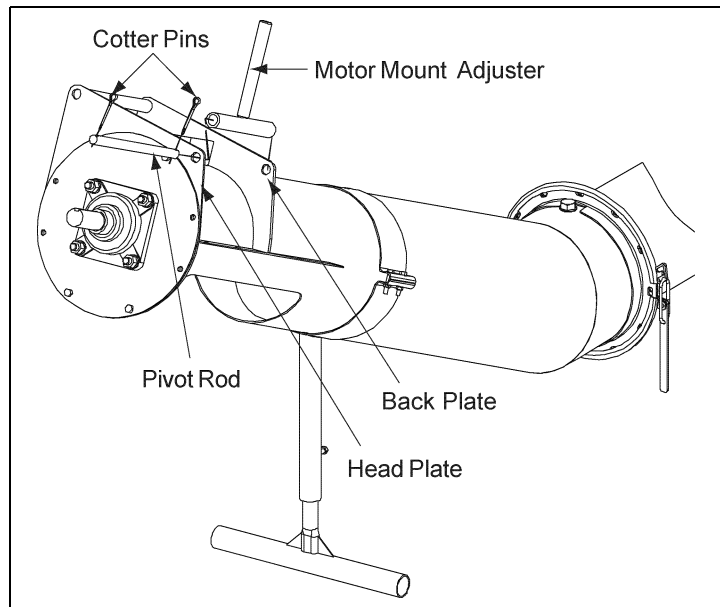

Figure 4F
- B. Insert Pivot Rod through the Tube plates and Motor Mount Adjuster. Secure in place with two (2) 3/16" x 2" cotter pins. (See Figure 4F)